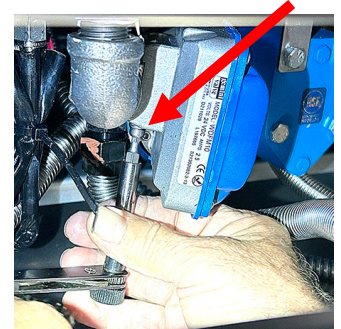

Figure 2
2. Loosen both return actuator screws (see Figure 2).